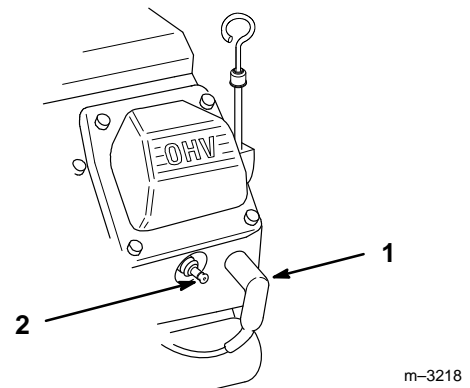

Figure 20
2. Pull the wire(s) off the spark plug(s) (Fig. 20). Now clean around the spark plug(s) to prevent dirt from falling into the engine and potentially causing damage.
3. Push the wire(s) onto the spark plug(s) (Fig. 20).